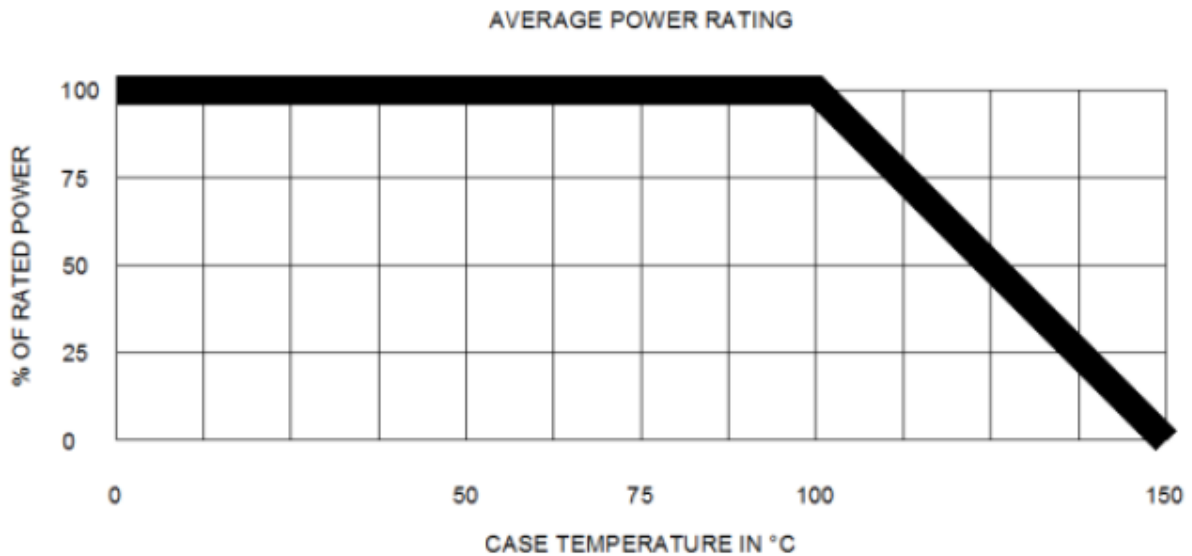

Figure 1 Power De-rating curve
2. Input power maximum at +100°C mounting base temperature, de-rated linearly to zero power at +150°C base temperature. See Figure 1.